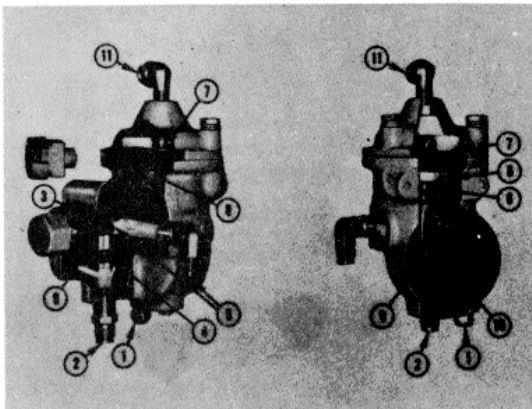

Fig. 5-7, (F5244). Aneroid cutaway
The aneroid control, Fig. 5-7, provides a fuel by-pass system that responds to air intake manifold pressure and is used for close control of exhaust smoke.
1. Fuel from the fuel pump enters aneroid and is directed to starting check valve area (5, Fig. 5-7).
2. The starting check valve (3) prevents aneroid from by-passing fuel at engine cranking speeds. For speeds above cranking, fuel pressure forces the check valve open, allowing fuel to flow to valve port (4) or shaft (9).
3. Shaft (9) and its bore form, a fuel by-pass valve. This shaft and bore allows or, restricts fuel flow.
4. The shaft and sleeve are by-passing fuel when arm (10) of lever is resting against adjusting screw (1). The amount of fuel by-passed is adjusted by this screw, which protrudes from bottom of aneroid.
5. The lever arm connected to piston (8) by actuating shaft (6), rotates shaft; closing valve port. The lever is rotated by action of air intake manifold pressure against piston and diaphragm (7), moving actuating shaft downward against resisting spring force.